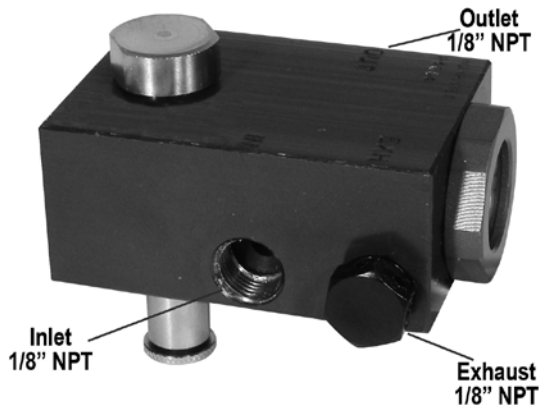

Figure 1 - DVO
5. Using the proper tools, disconnect the inlet, outlet and exhaust fittings from the existing DVO. See **Figure 1**. You will re-connect these to the new DVO in a later step.